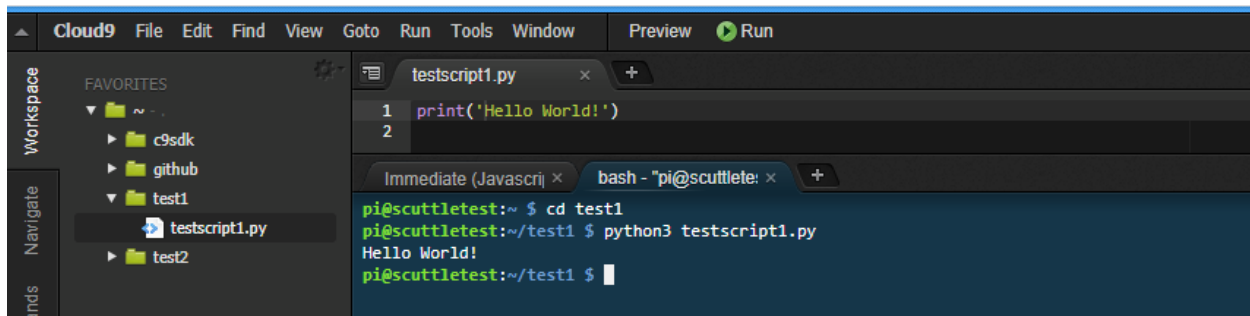

Figure 9
- a. This will then run the file and should print out ‘*Hello World!*’ to the terminal like in Figure 9: